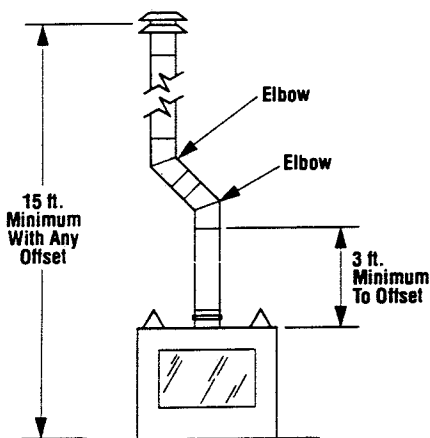

Figure 11
Step 4. Connect a 6" (127 mm) Type B vent system to the appliance flue collar with two (2) No. 8 sheet metal screws and install the remainder of the Type B vent to the outside. Minimum overall height of the vent system and appliance without an offset must be 12' (3.7 m).
Install the B-vent system in accordance with the vent manufacturer's instructions. All allowable vent configurations and offsets are permitted with the following restrictions; the vent run must include three (3) feet of vertical height before any offset is used, the total height of any vent run, including an offset, must be fifteen (15) feet minimum (Figure 11).